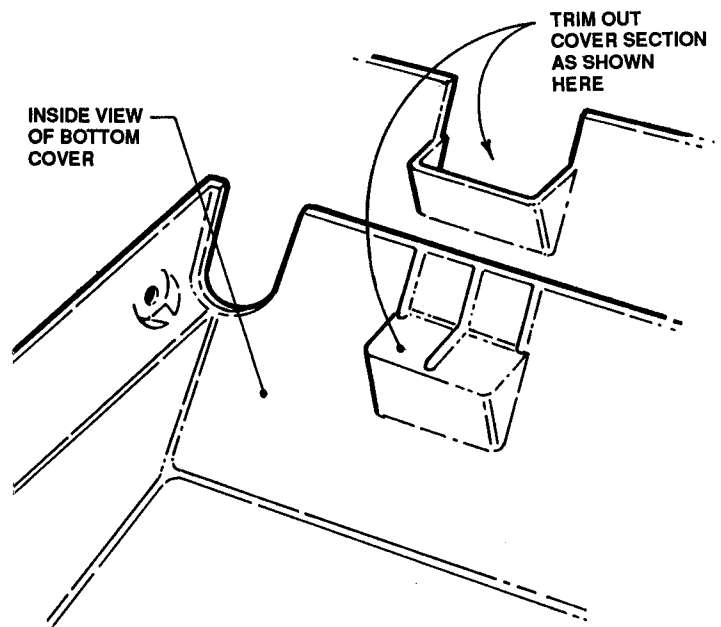

FIGURE 9.2
- C. Trim Outlet in Bottom Cover as shown in Figure 9.2.